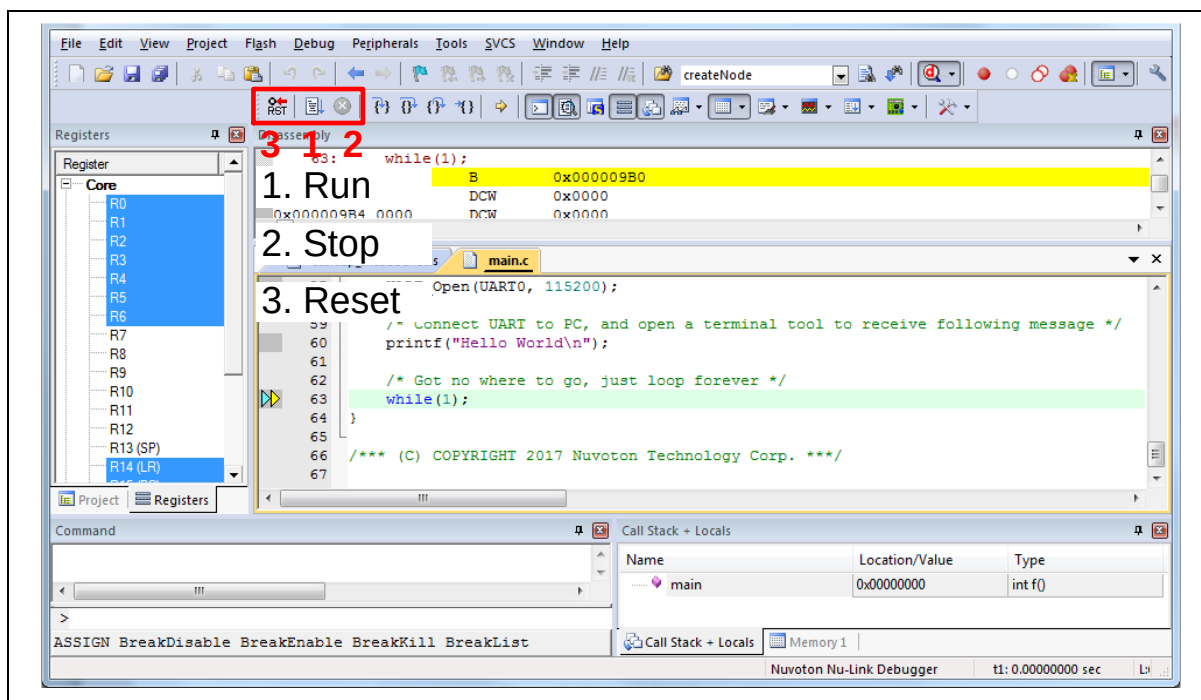
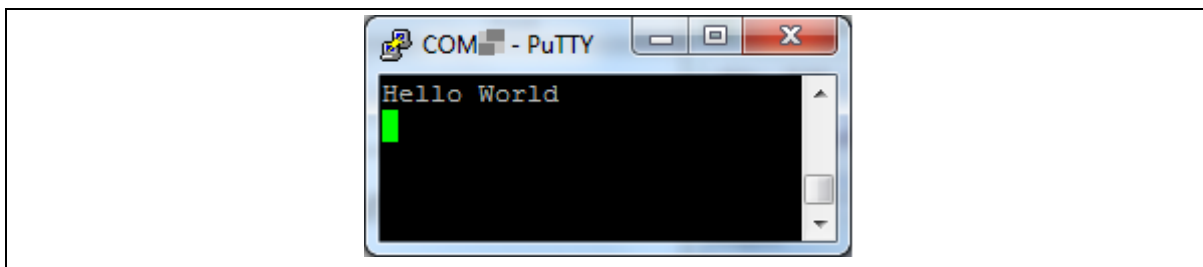

Figure 4-13 Keil MDK Debug Mode
Figure 4-14 Debug Message on Serial Port Terminal Windows
4. Figure 4-13 shows the debug mode under Keil MDK. Click **"Run"** and the debug message will be printed out as shown in Figure 4-14. User can debug the project under debug mode by checking source code, assembly language, peripherals' registers, and setting breakpoint, step run, value monitor, etc.